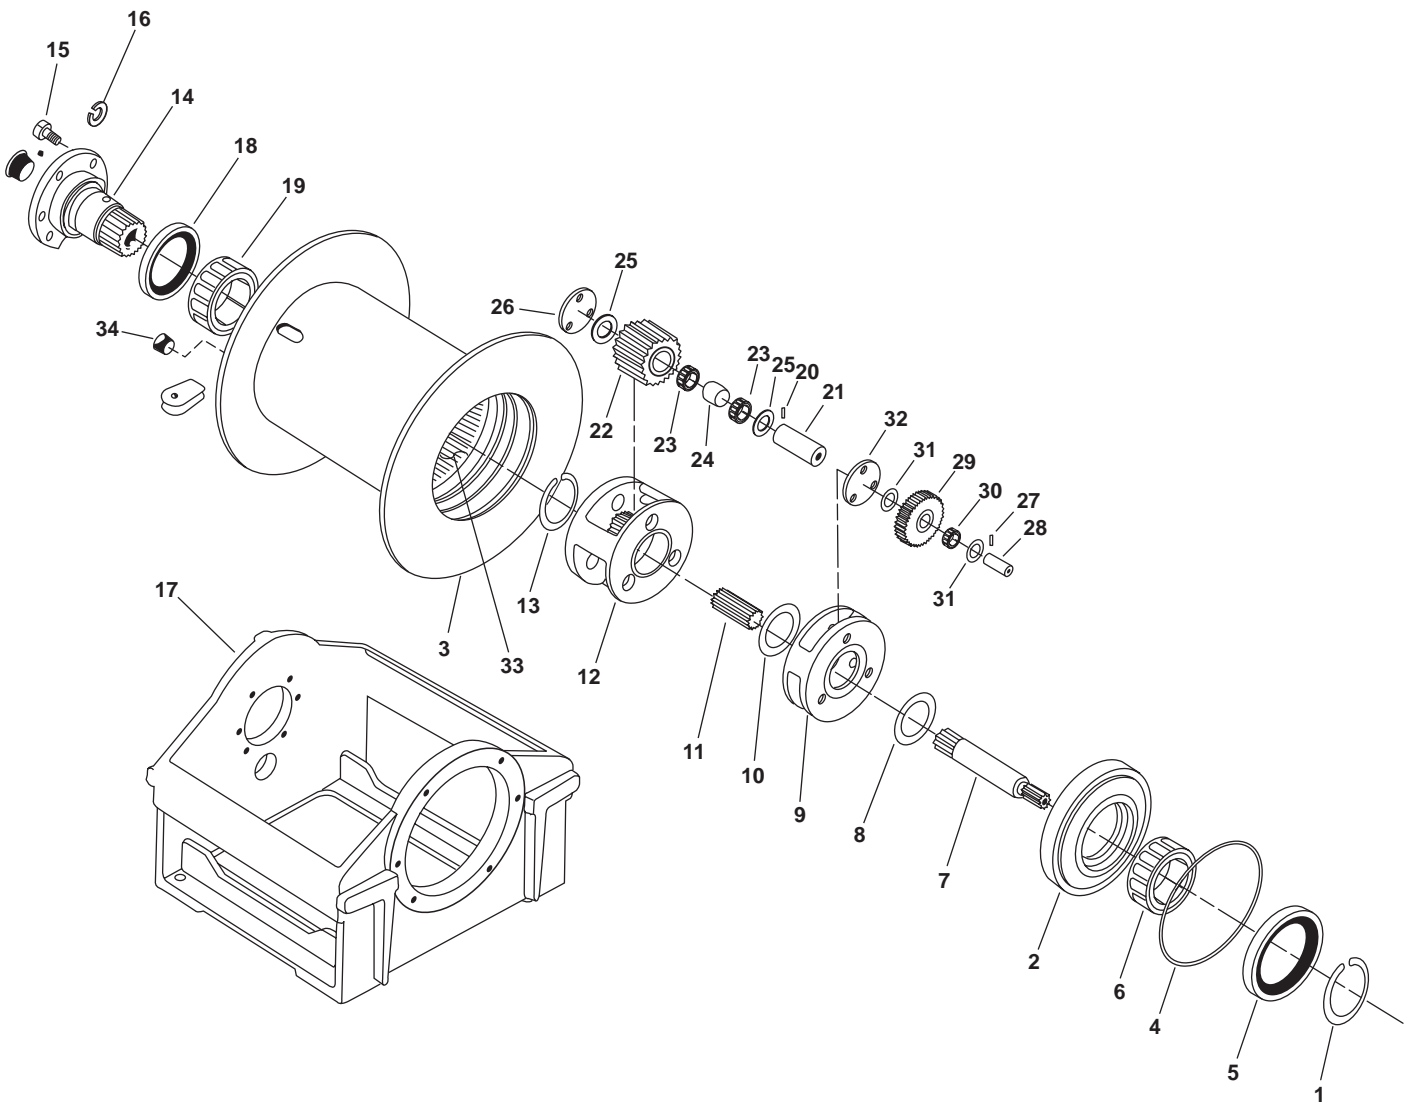

Figure 1. Crane Winch
1. Remove the retaining ring (figure 1, item 1) from the drum closure (figure 1, item 2). Discard the retaining ring.
2. Remove the drum closure (figure 1, item 2) from the drum (figure 1, item 3).
3. Remove the O-ring (figure 1, item 4) from the drum (figure 1, item 3). Discard the O-ring.
4. Using an arbor press, remove the seal (figure 1, item 5) and the bearing (figure 1, item 6) from the drum (figure 1, item 3). Discard the seal and bearing.
5. Remove the primary sun gear (figure 1, item 7) and the thrust washer (figure 1, item 8) from the primary planet carrier (figure 1, item 9).
6. Remove the primary planet carrier (figure 1, item 9) from the drum (figure 1, item 3).
7. Remove the output thrust washer (figure 1, item 10) and the output sun gear (figure 1, item 11) from the output planet carrier (figure 1, item 12).
8. Remove the output planet carrier (figure 1, item 12) from the drum (figure 1, item 3).
9. Remove the retaining ring (figure 1, item 13) from the bearing support (figure 1, item 14). Discard the retaining ring.
11. Remove the six bolts (figure 1, item 15) and the six lockwashers (figure 1, item, 16) from the bearing support (figure 1, item 14). Discard the lockwashers.
12. Remove the bearing support (figure 1, item 14) from the drum (figure 1, item 3).
13. Remove the drum (figure 1, item 3) from the base (figure 1, item 17).
14. Remove the seal (figure 1, item 18) and the bearing (figure 1, item 19) from the drum (figure 1, item 3). Discard the seal and bearing.
15. Place the output planet carrier (figure 1, item 12) on a bench and drive the roll pins (figure 1, item 20) into the center of the planet shafts (figure 1, item 21) using a punch and hammer.
16. Slide the planet shafts (figure 1, item 21) out of the output planet carrier (figure 1, item 12) approximately 1 in (25.4 mm).
17. Remove the roll pins (figure 1, item 20) from the planet shafts (figure 1, item 21) by driving them out with a punch and hammer. Discard the roll pins.
18. Remove the three planet gears (figure 1, item 22), the six bearings (figure 1, item 23), the three spacers (figure 1, item 24), the three planet shafts (figure 1, item 21), the six thrust washers (figure 1, item 25), and the output thrust plate (figure 1, item 26) from the output planet carrier (figure 1, item 12).
19. Place the primary planet carrier (figure 1, item 9) on a bench and drive the roll pins (figure 1, item 27) into the center of the planet shafts (figure 1, item 28) using a punch and hammer.
20. Slide the planet shafts (figure 1, item 28) out of the primary planet carrier (figure 1, item 9) approximately 1 in (25.4 mm).
21. Remove the roll pins (figure 1, item 27) from the planet shafts (figure 1, item 28) by driving them out with a punch and hammer. Discard the roll pins.
22. Remove the three planet gears (figure 1, item 29), the three planet shafts (figure 1, item 28), the three bearings (figure 1, item 30), the six thrust washers (figure 1, item 31), and the primary thrust plate (figure 1, item 32) from the primary planet carrier (figure 1, item 9).
2. Inspect the drum (figure 1, item 3) for cracks, worn teeth on the ring gear, spalling, excessive wear, and nicks on the ring gear teeth. Replace the drum if these conditions exist.
3. Inspect the output planet carrier (figure 1, item 12) for spalling, corrosion, and discoloration. If these conditions exist, replace the primary planet carrier.
4. Inspect the planet shafts (figure 1, item 21) for abnormal wear and pitting. Replace the planet shaft if these conditions exist.